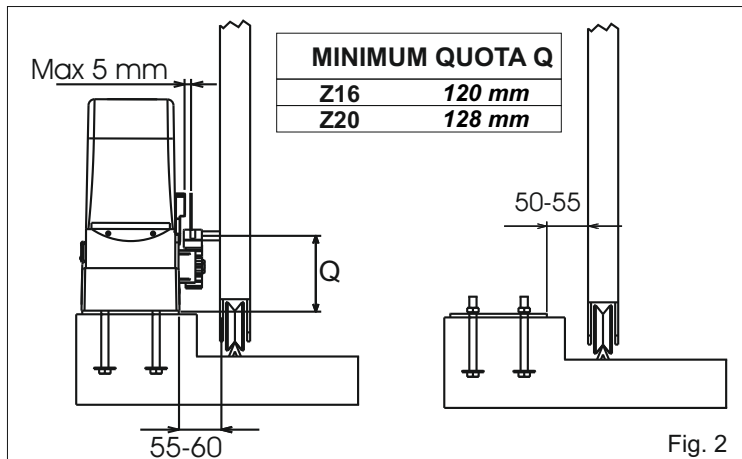
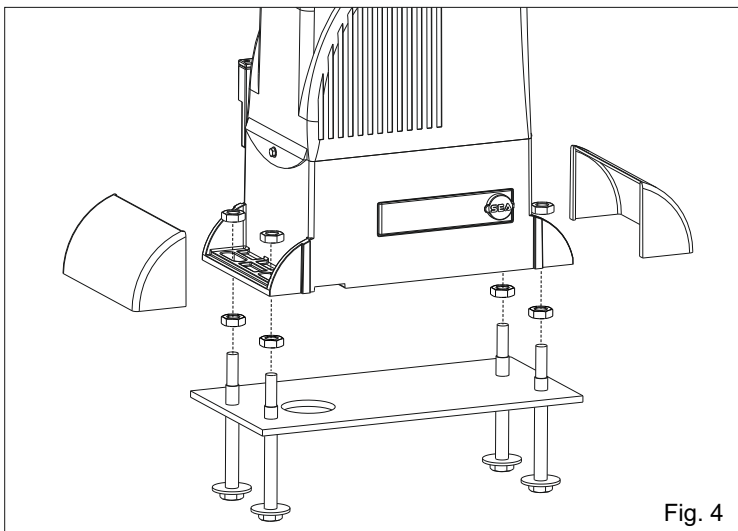
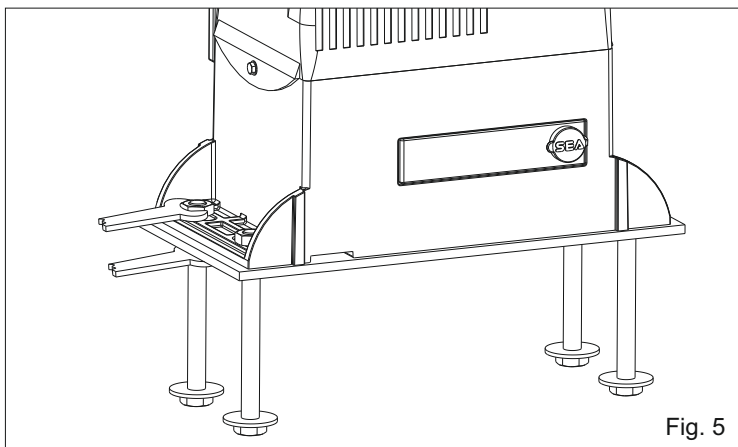

Fig. 2
Fig. 4
Fig. 5
**2.3.** When concreting in the plate check that the plate is perfectly levelled and that the measurement of 50 - 55 mm given in Fig. 2 is followed.
**4.1.** Fix the motor-reducer to the foundation plate adjusting the side position and its height (Fig. 4 - Fig. 5) considering the mentioned measurements in Fig. 2.